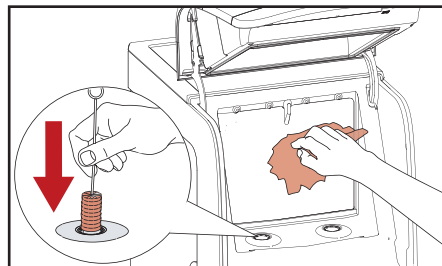

Fig. 5.9 - Clean cooling compartment
4. Clean the doser opening with a brush and the interior of the cooling compartment with a clean, damp cloth (fig. 5.9). Dry with a clean paper cloth.